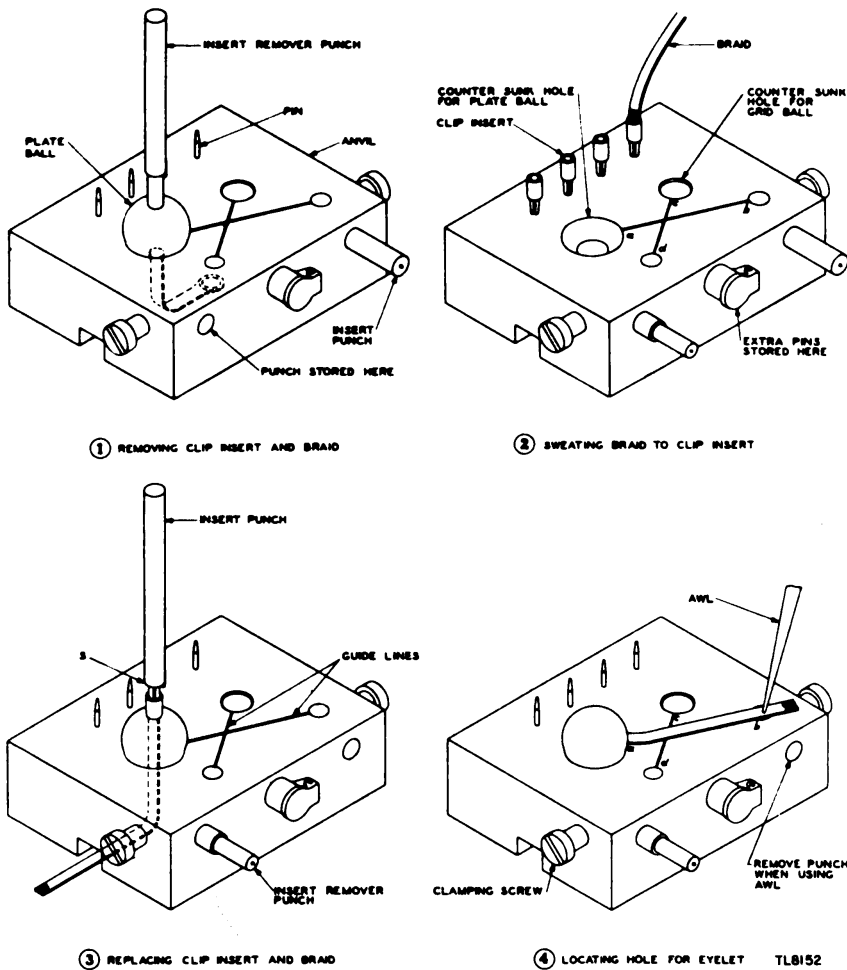

Figure 23. Punch and Anvil Set TL-196 in use.
Figure 23 shows the various steps required to remove and replace a connector braid and clip insert on a ball assembly.
(1) Run the eyelet and braid of the damaged ball assembly through the countersunk hole used for the plate or grid ball (fig. 23①). Permit the ball to rest on the leveled surface and at the same time allow the braid to run down the bottom channel of the anvil.
(2) Using the insert remover punch, drive out the insert (fig. 23①).
(3) Place (prongs down) a new clip insert of the proper size for the particular ball being repaired on one of the four pins projecting from the anvil (fig. 23②). The grid and plate balls use clip inserts of different
(4) Sweat the braid to the clip insert. It is important that no solder be on any portion of the braid other than at the connection.
(5) Remove the clip insert from the pin and pass the loose end of the braid through the hole in the ball.
(6) Now pass the loose end of the braid through the proper countersunk hole so that it enters the bottom channel of the anvil. Rest the ball on the beveled surface of the hole.
(7) Draw the braid so that the insert rests in the position indicated in figure 23③, and drive the clip insert into place with the insert punch. The insert is in the correct position when the surface S of the punch is in contact with the ball.
(8) Remove the ball from the countersunk hole and place it in the same hole so that the braid extends along the guide line a-b (if it is a plate ball) or c-d (if it is a grid ball) as shown in figure 23. This does not apply to all models of radio sets, however, as some are designed so that the grid- and plate-ball braids are of the same length. In this case, both balls should be placed in the hole for the grid ball and the braid extended along guide line c-d. Guide line a-b is not used.
(9) Stretch the braid along the line a-b (if it is a plate ball) or c-d (if it is a grid ball). With the awl make a hole in the braid at the point b or d as indicated in figure 23④, so that a No. 469 eyelet can be inserted. Crimp and solder the eyelet to the braid.
(10) File the soldered end so that a smooth surface is produced. Be sure no frayed ends or points are left on the braid or soldered ends.